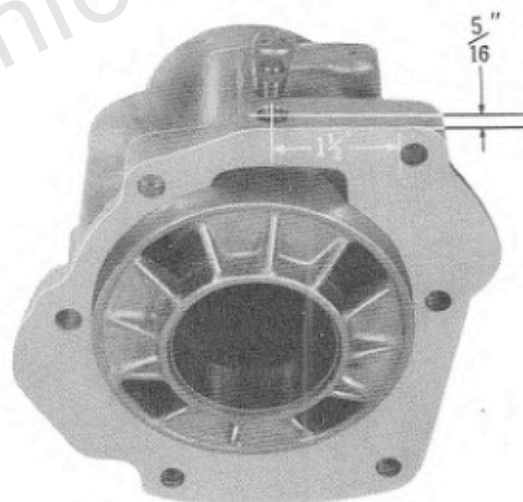

Fig. 4
2. Locate a point on top of the extension housing $1\frac{1}{2}"$ left of the upper right bolt hole in the housing and $5/16"$ rearward from the machined face of the housing. (See Fig. 4)